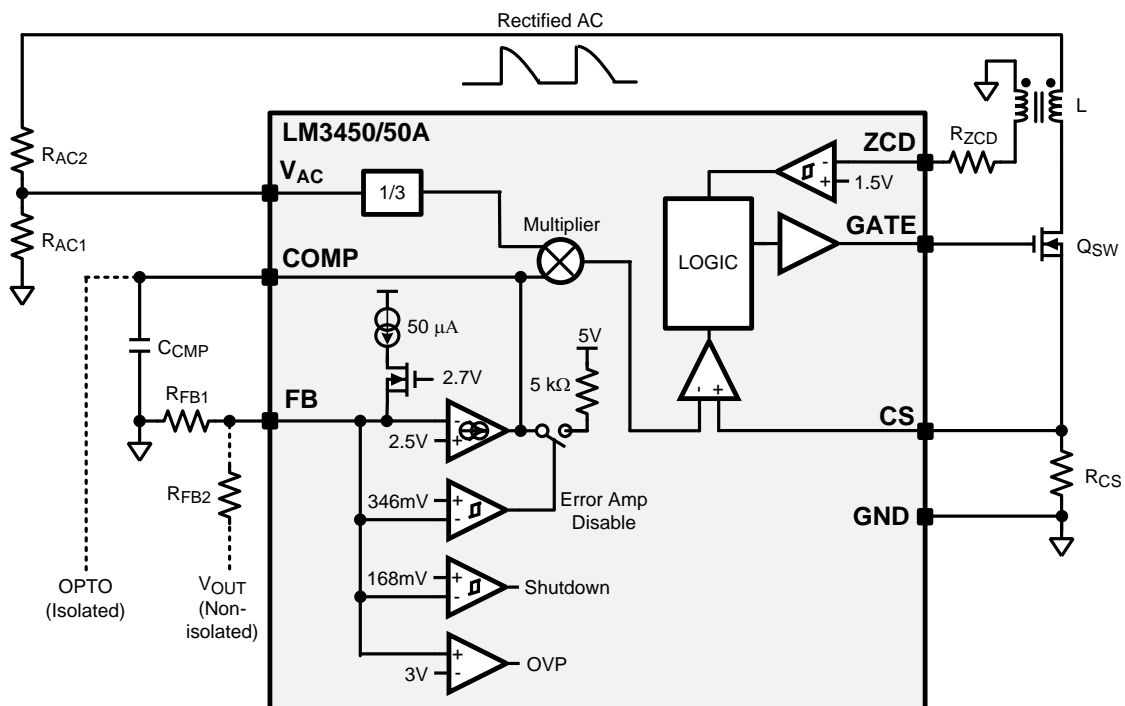
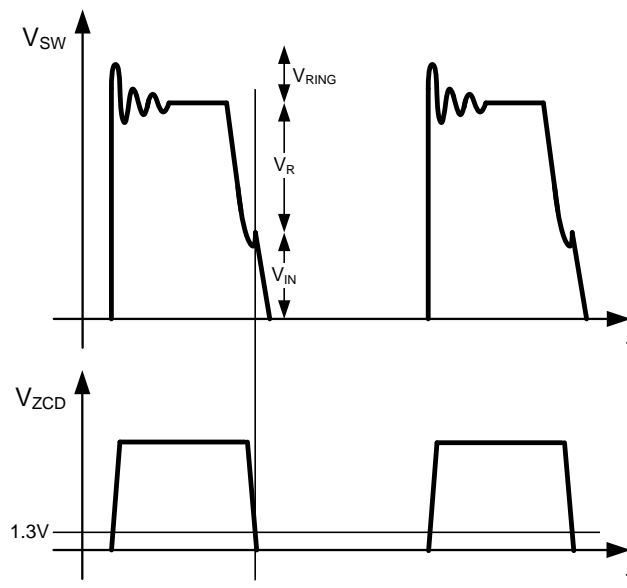

Figure 21. PFC Control Circuit
Figure 22. ZCD Waveforms for Flyback Design
The LM3450/50A uses CRM control to regulate the output voltage and provide power factor correction. In a non-isolated boost topology, an external voltage divider (R_{FB1} , R_{FB2}) is used to sense the output voltage, as shown in Figure 21. The divider is connected to the inverting input (FB) of the internal error amplifier. The LM3450/50A regulates the feedback voltage (V_{FB}) to 2.5V in a closed loop fashion.
For an isolated flyback topology, where the error amplifier is on the secondary, the LM3450/50A internal error amplifier can be bypassed using a single 5.11kΩ resistor (R_{FB1}) from FB to GND. This engages an internal 5kΩ pull-up resistor at COMP. COMP can then be connected directly to the optical isolation as shown in Figure 21.
ZCD is implemented with a 100kΩ resistor from the ZCD pin to a coupled winding on the transformer or inductor as shown in Figure 21. This winding is also used to bootstrap V_{CC} after start-up. When Q_{SW} turns off, the voltage at the ZCD pin (V_{ZCD}) increases as energy is transferred through the auxiliary winding. The circuit arms when V_{ZCD} exceeds 1.5V. Then, when the energy is fully transferred, V_{ZCD} decreases towards zero. When V_{ZCD} falls below 1.3V, the transformer is assumed to be demagnetized, the circuit disarms, and Q_{SW} is turned back on as shown in Figure 22. The ZCD pin voltage will remain low until Q_{SW} is turned off via peak detection and the cycle repeats.
The LM3450/50A internal error amplifier is used for non-isolated designs (boost) where the output voltage can be directly sensed, via a resistor divider, at the FB pin. The FB pin is the inverting input of the trans-conductance amplifier which is regulated to 2.5V. The COMP pin is the output of the amplifier and external compensation is placed from COMP to GND in the form of a single capacitor (C_{COMP}) as shown in Figure 21, a series resistor and capacitor, or both. The output of the amplifier sources or sinks current as necessary to force the inputs of the amplifier to be equal. The compensation method depends upon the transient performance desired and requires a loop gain analysis. This analysis can be somewhat complex and cumbersome. A detailed analysis can be found Application Notes AN-2098 (literature number SNVA463) and/or AN-2150 (literature number SNVA485).